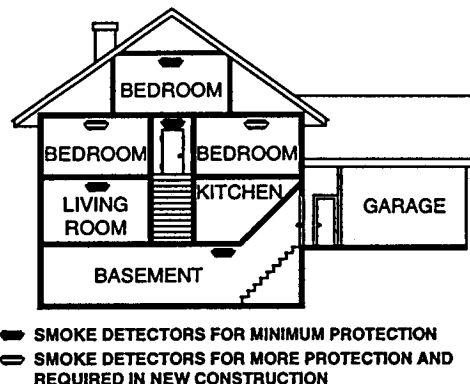

Figure 2. Multi-level residence.
- Put a smoke sensor on every level of a multi-level residence (Figure 2).